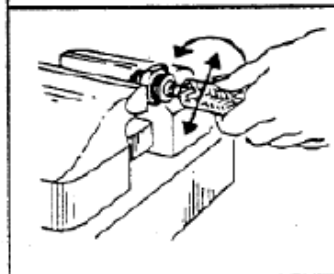

Figure 4
6. Install the sleeve between the braid and the Teflon tube. Make sure that none of the braid is trapped between the Teflon and the sleeve. Bottom the tube against the shoulder of the sleeve and make sure that the sleeve is inserted square. (**Figure 4**)